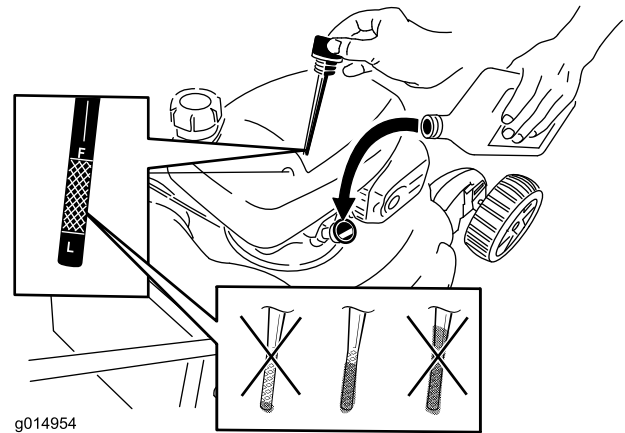

Figure 16
2. Remove the dipstick (Figure 16).
5. Remove the dipstick and read the oil level; refer to Figure 16.
- If the oil level is too low, add a small amount of oil slowly to the oil-fill tube, and then repeat steps 3 through 5 until the oil level is correct as shown in Figure 16.